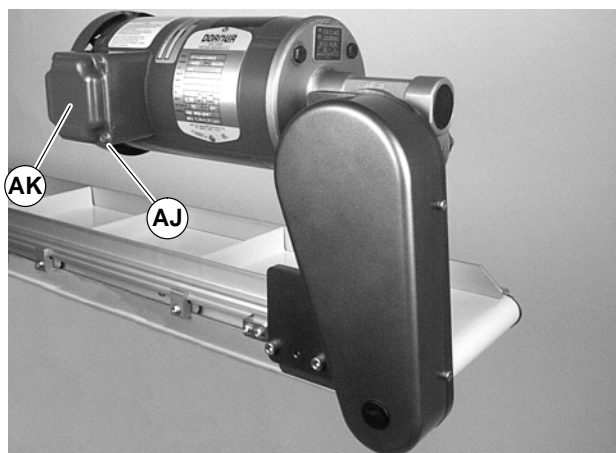

Figure 18
- a. Loosen terminal box screws (AJ of Figure 18) and remove cover (AK).